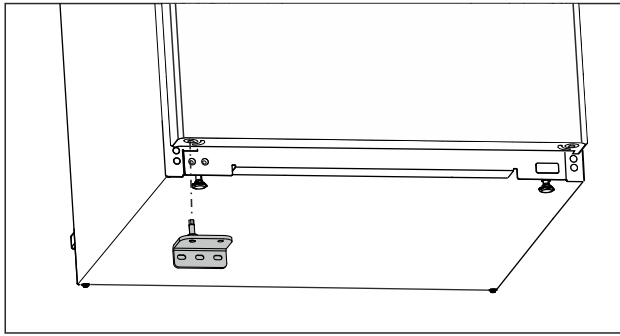

Fig. 21
- ▶ Insert the lower swap bearing block on the opposite side. (see Fig. 21)